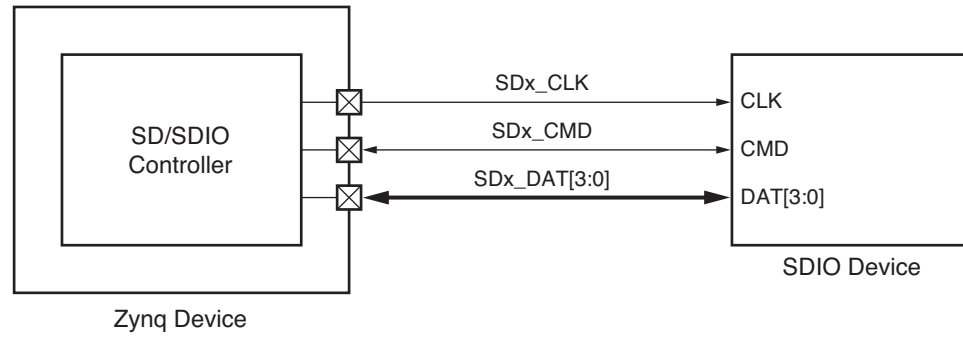

Figure 13-7: SDIO Block Diagram
6. Check the Software Reset for DAT Line and Software Reset for CMD Line in the Software Reset register. If both Software Reset for DAT Line and Software Reset for CMD Line are 0, go to "END". If either the Software Reset for DAT Line or the Software Reset for CMD Line is 1, repeat Step (6).
Zynq-7000 devices provide two secure digital (SD) ports that support SD and SDIO devices (see Figure 13-7).